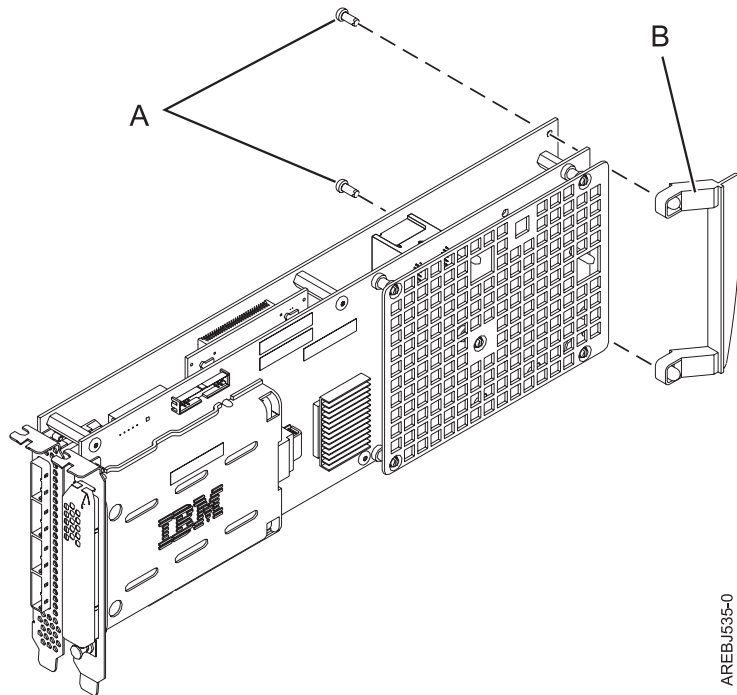

Figure 25. Cassette adapter handle attachment
- a. Remove the adapter handle **B** as shown in Figure 25 on page 45.